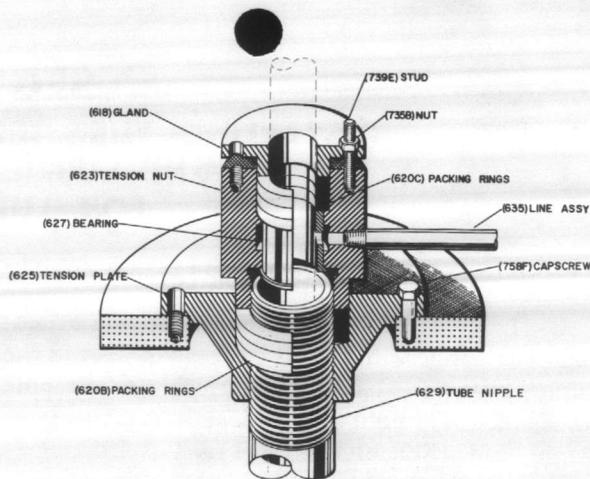

Figure 9-2 Tension Plate Assy (Flush Lubrication)
B. Install packing in the tension plate and thread the tension nut (626), tightening it firmly against the packing.
C. If a packed type tension nut (623) is used, install packing (620C), packing gland (618) and secure with stud (739E) and nut (735B). Screw nut finger tight. Install line assembly (635) and connect to flush liquid supply. (SEE FIGURE 9-2).